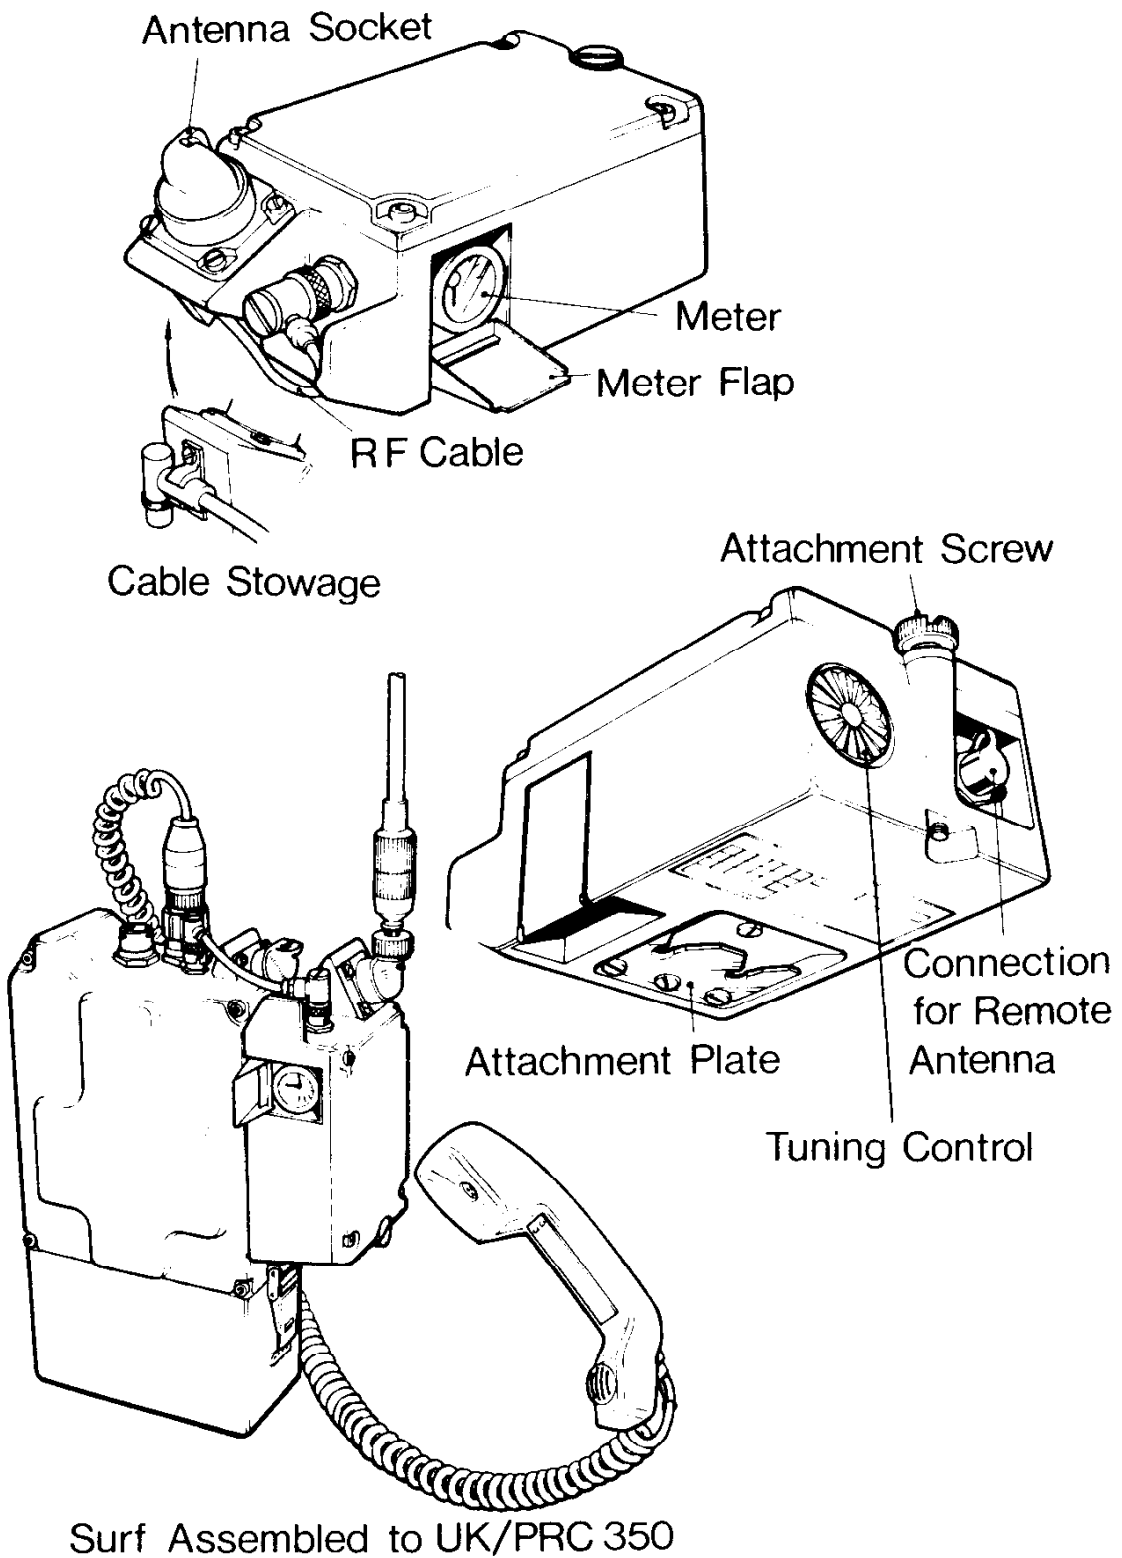

Fig 28.—Connecting a 2 Watt SURF to UK/PRC 350
- a. Connect SURF to set (*see Fig 28*).